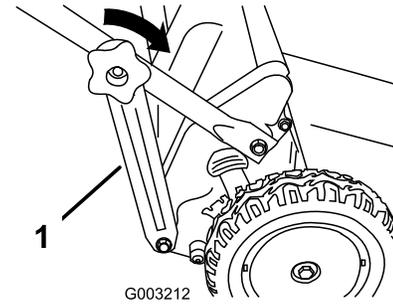

Figure 17
3. Install the lower handle knobs and tighten the knobs as tight as you can by hand (Figure 17).